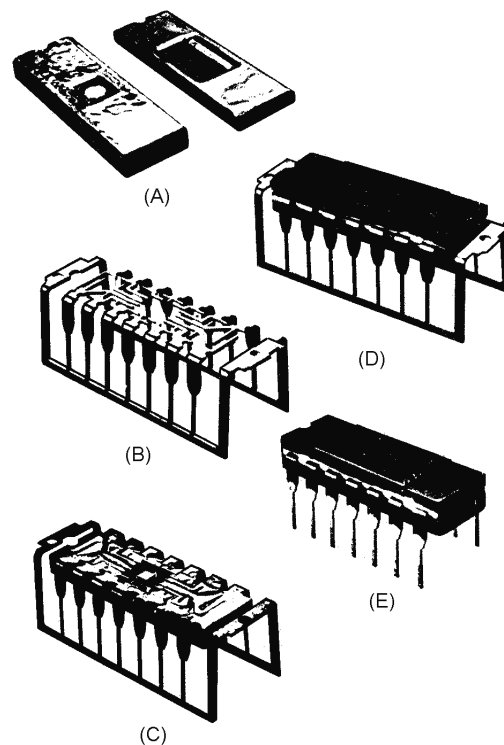

Figure 1-24.—DIP packaging steps.
The progressive stages in the assembly of a ceramic DIP are illustrated in figure 1-24, views (A) through (E). The integrated-circuit die is sandwiched between the two ceramic elements, as shown in view (A). The element on the left of view (A) is the bottom half of the sandwich and will hold the integrated-circuit die. The ceramic section on the right is the top of the sandwich. The large well in view (B) protects the IC die from mechanical stress during sealing operations. Each of the ceramic elements is coated with glass which has a low melting temperature for subsequent joining and sealing. View (B) shows the Kovar lead frame stamped and bent into its final shape. The excess material is intended to preserve pin alignment. The holes at each end are for the keying jig used in the final sealing operation. The lower half of the ceramic package is inserted into the lead frame shown in view (C). The die is mounted in the well and leads are attached. The top ceramic elements are bonded to the bottom element shown in view (D) and the excess material is removed from the package. View (E) is the final product.